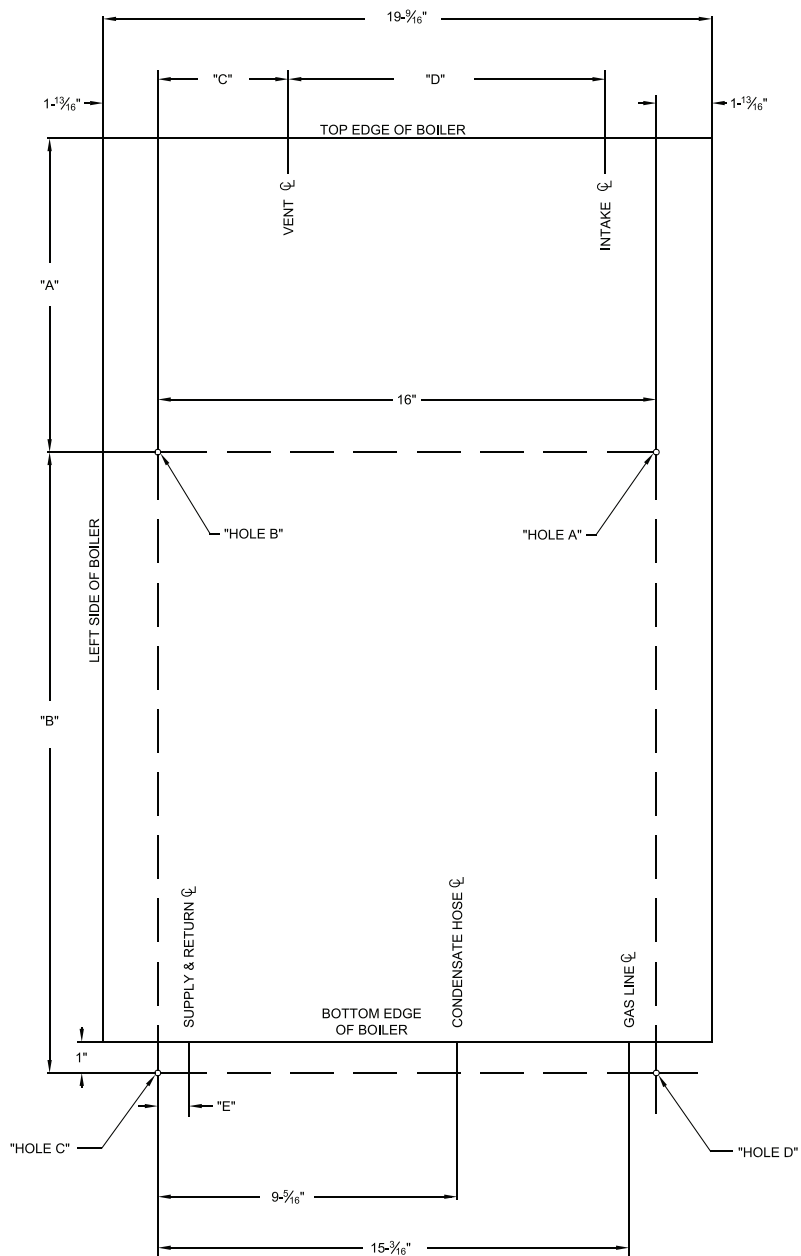

Figure 5.1 Wall Layout / Mounting Hole Location
5. Once a suitable location has been selected for the boiler, and any needed modifications have been made to the wall, use Figure 5.1 to locate holes "A" and "B". Make sure that the horizontal centerline of these holes is level. Holes "C" and "D" may also be drilled at this time or after the boiler is hung on the wall. If the 5/16" x 2" lag screws are used, drill 3/16" pilot holes.